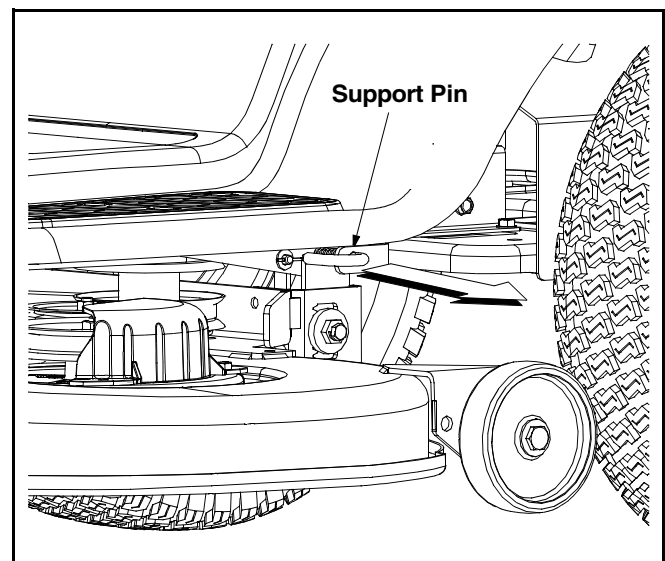

Figure 14
- Pull the deck support pin outward to release the deck from the deck lift arm. See Figure 14.